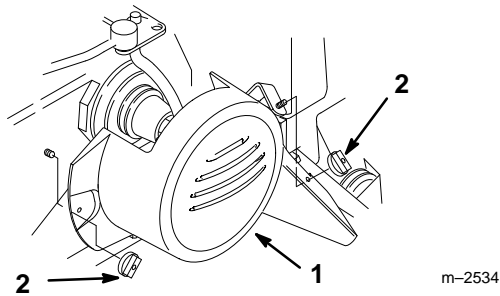

Figure 11
2. Remove the two wing nuts and belt cover from the tractor (Fig. 11).